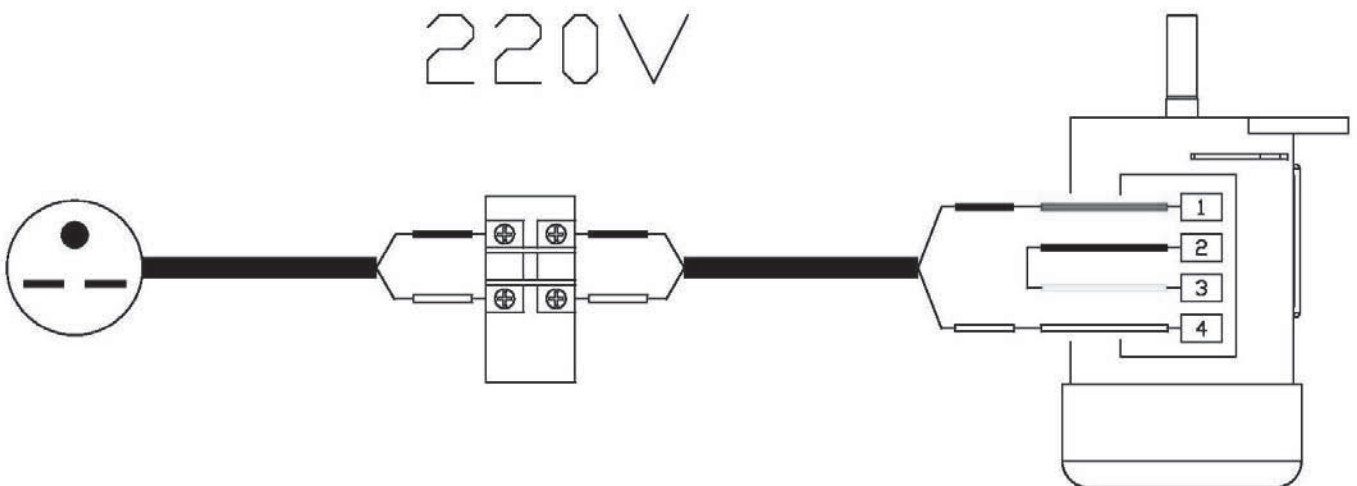

Fig1.4
2. TO 220 VOLT. Open motor wire box, contact No.1 red motor wire to either power wire, and contact No.4 white motor wire to another power wire, than contact No.2 black motor wire to No.3 yellow motor wire. Place refer to Fig.1.4.